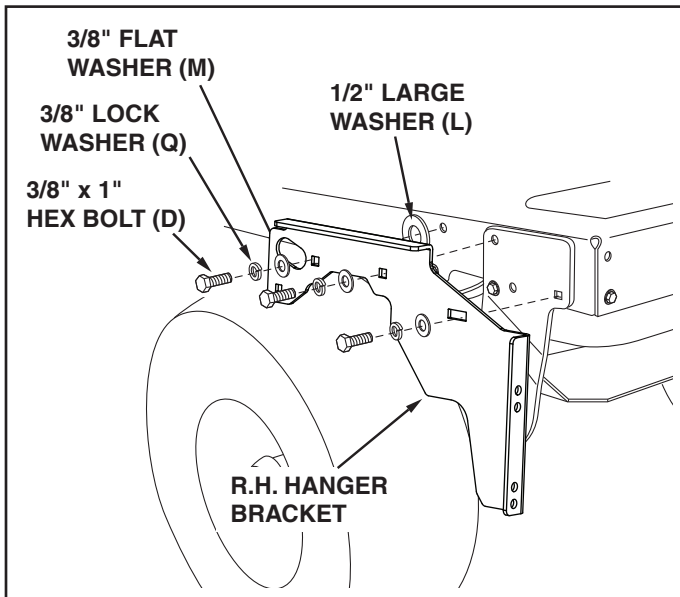

FIGURE 6
9. Attach the R.H. hanger bracket to the two front empty holes on the right side of the tractor frame using two new 3/8" x 1" hex bolts (D), 3/8" lock washers (Q), and 3/8" flat washers (M) as shown. For the rear hole, use a 3/8" x 1" hex bolt (D), 3/8" lock washer (Q) and 3/8" flat washer (M) with a large 1/2" washer (L) placed between the hanger bracket and the tractor frame. Tighten. See figure 6.